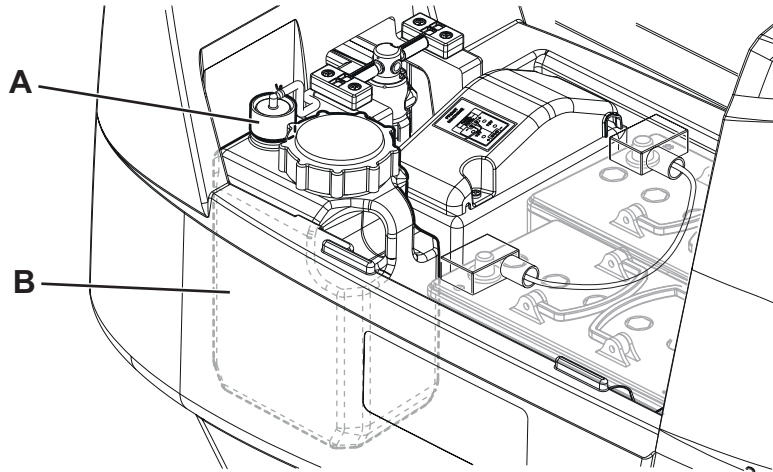

Figure 14
2. Ensure that the machine is off and the user key (52) has been removed.
3. Lift the cover (34) and check that the recovery tank (33) is empty; if not, empty it using the drain hose (12).
4. Close the cover (19).
5. Grasp the handle (16) and carefully lift the tank (33).
6. Unscrew the cap (A, Fig. 14) from the detergent tank (B).
9. Replace the detergent tank (B) as shown in the figure, then refit the cap (A).